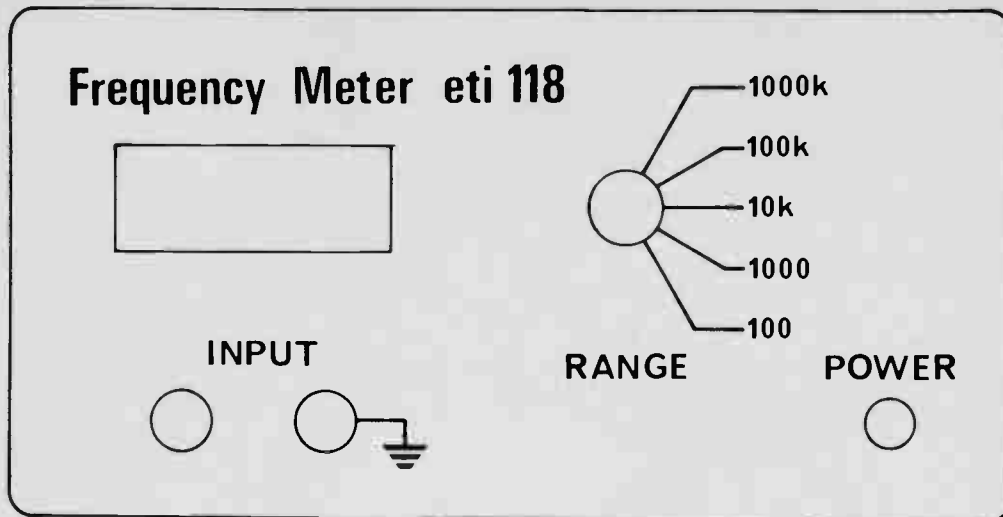

Fig. 5. Front panel of the frequency meter.
- Front panel as per Fig. 5.
The front panel has to be cut and drilled as shown in Fig. 5. It can be either silk screened with the required